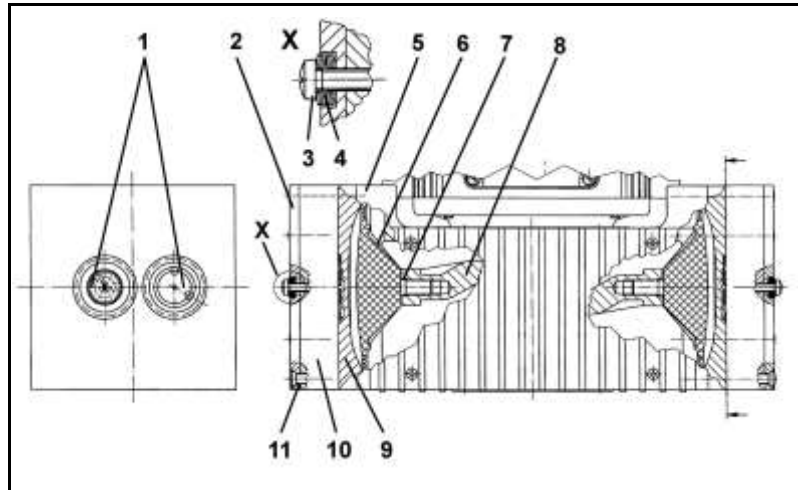

Fig. 11: Cross section of pump heads for pump 860.3 FT.18P (symbolic)
3. At both pump heads make a mark (M) on the top plate (fig. 11/2), head plate (10), intermediate plate (9), and housing (5) with a felt-tip pen. This is to ensure that the parts will be reassembled correctly at a later stage.
4. Undo the eight screws (11).
5. Lift the pump heads off the housing (5).
- Turn the fan to bring the diaphragm (6) of one pump head to medium position.
- Place the intermediate plate (9), with valve plates/sealings (1), on the housing, in the position indicated by the marking (M).
- Place the head plate (10) on the intermediate plate (9) in the position indicated by the marking (M).
- Place top plate (2) in position and insert screws (3) with disk springs (4), and tighten them until the screw heads are just fully seated (do not completely tighten them!).
- i** The concave side of the first three disc springs must point away from the screw head, the next three towards it (see fig. 11, detail X).